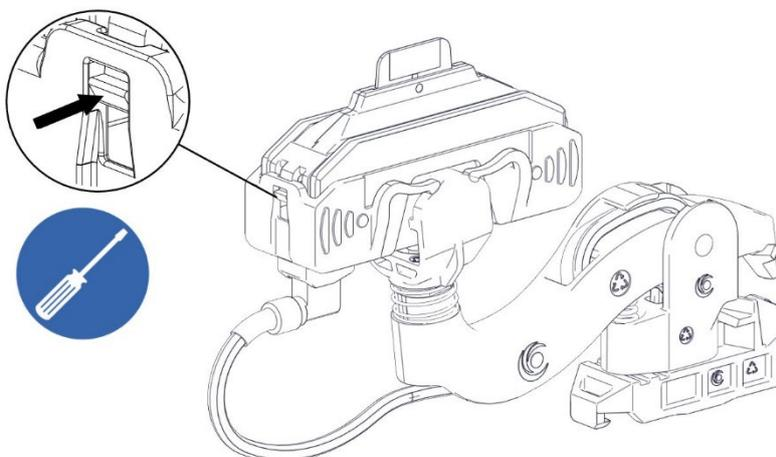

Fig. 150: Carefully press nose in collector housing inward with flat-head screwdriver
- Using a flat-head screwdriver ≤ 3.0 , carefully push a nose of the collector housing inward to disassemble the circuit board housing (see Fig. 150).